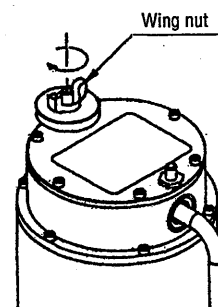

Fig. 5 Wing nut tightened
- If the BKK-A is installed in a place where it constantly receives fine vibration, tighten the knurled knob by screwing the accessory wing nut to the end of screw rod so that the knurled knob may not turn due to the fine vibration. (See Fig. 5.)